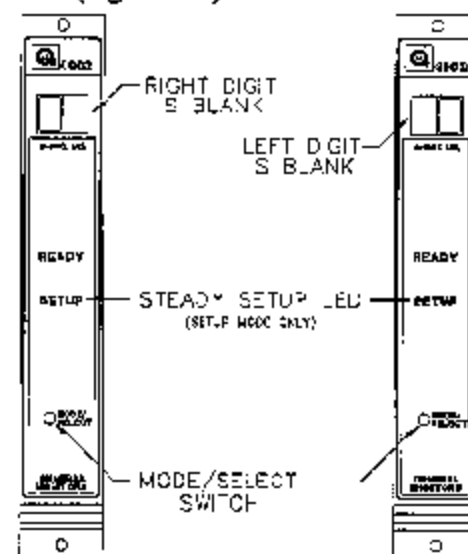

Figure 36
- This option applies to the Setup Mode only: If the Password is disabled, the unit will return to normal operation. If the Password is enabled, the user will be able to enter a new password. The unit will display the left digit of the Password, flashing on the display. The right digit will be blank until the left digit has been selected. Press the Mode/Select switch repeatedly until the correct value is displayed. Once the left digit is correct, wait for five seconds and the right digit of the display will begin flashing and the left digit will be blank. Press the Mode/Select switch repeatedly until the correct value is displayed. Wait about five seconds and the unit will return to normal operation, completing the Setup Mode (figure 36).